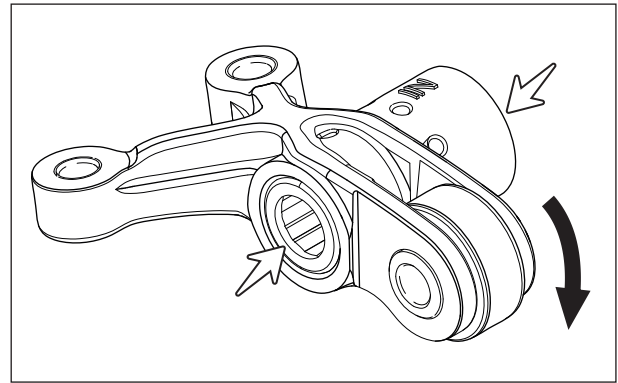

Fig. 3.61
- The arm complete valve rocker has a roller follower. The roller follower is a steel roller housed with a needle bearing. This has been provided to decrease the load exerted by the valve train on engine by reducing the friction. (Fig. 3.61)